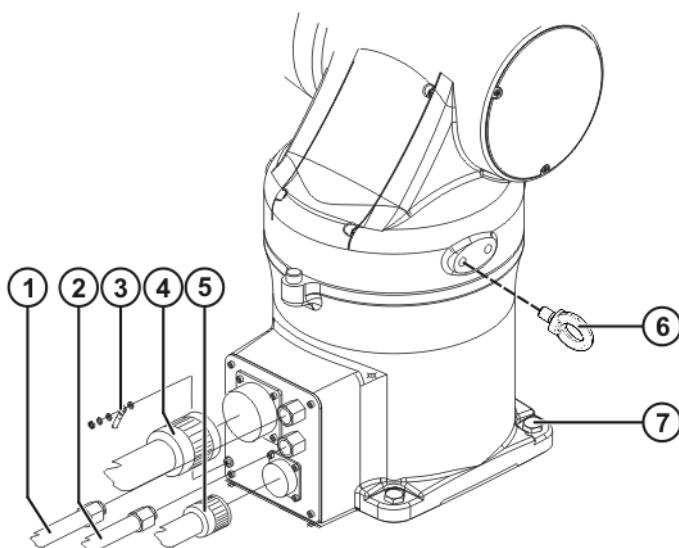

Fig. 13-1: Interface, axis 1, floor
7. Release and unplug the motor/data cable connector CN22 (>>> Fig. 13-1).